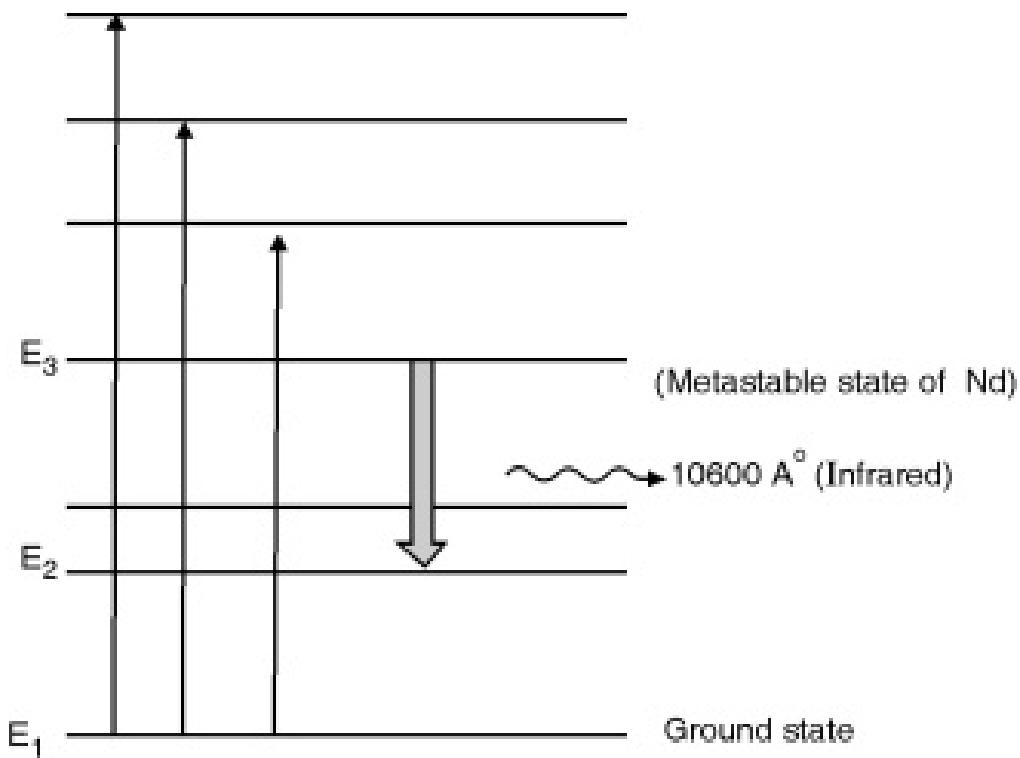

Fig. 4.12.2 : Energy levels of Nd along with YAG
- In Fig. 4.12.2 we have energy levels E_1 , E_2 and E_3 of Nd along with many other levels of YAG. E_1 is ground state and E_3 offers metastable state.